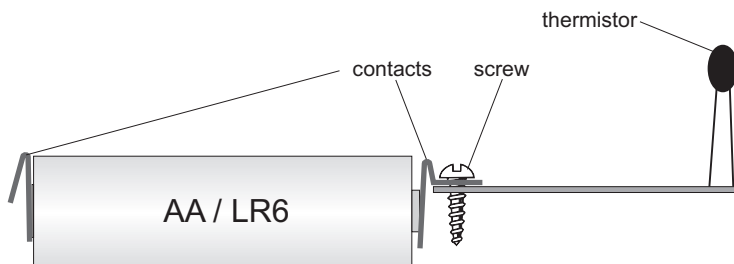

Fig. 5 Connection of the elements in a transmitter
2. Check the terminals connecting the batteries with the thermostat plate. Tighten the screws connecting the metal contacts of the thermostat (see Fig. 5).